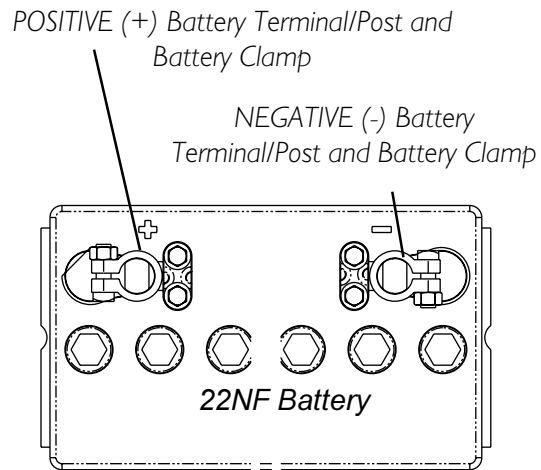

FIGURE 7 - CONNECTING BATTERY CABLES - BATTERY CLAMP METHOD
BATTERY CLAMP METHOD (FIGURES 7, 8 AND 9)
The battery clamps MUST be mounted in the positions shown in FIGURE 7, otherwise the battery box top cannot be installed properly.
1. Perform one (1) of the following:
A. If the battery clamps are **NOT** mounted in the orientation shown in FIGURE 7, perform the following:
- Reposition the battery clamp on the battery terminal/post as shown in FIGURE 7.
B. If the battery clamps are positioned as shown in FIGURE 7, proceed to STEP 2.